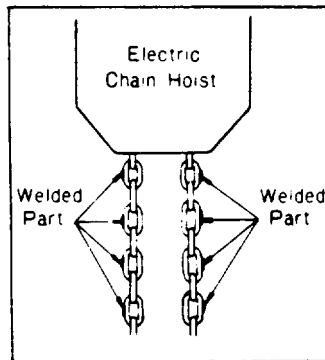

Fig. 11
2. The correct load chain set up is that the weld of each link face outward as shown in Fig. 11. When you replace a load chain, set it up correctly with respect to the welds.